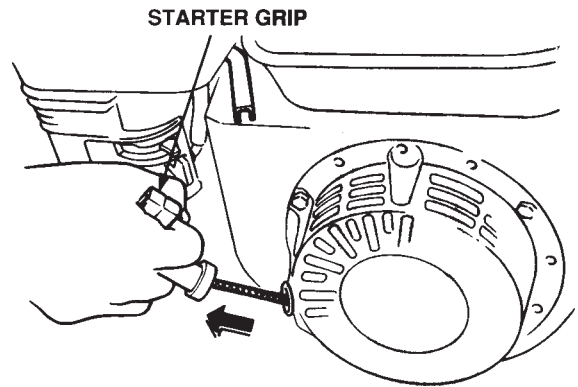

Figure 26. Starter Grip
- Grasp the starter grip (Figure 26) and slowly pull it out. The resistance becomes the hardest at a certain position, corresponding to the compression point. Pull the starter grip briskly and smoothly for starting.